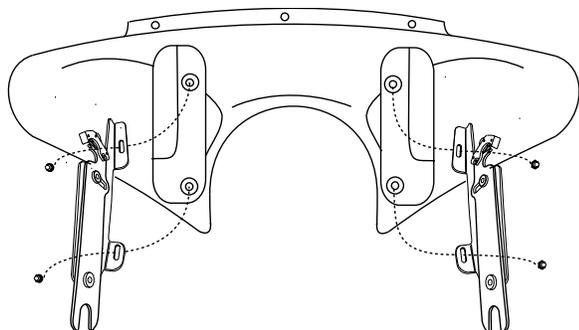

Figure 1
2. Attach the fairing mounting plates to the bolts on the fairing with the washers and acorn nuts provided. The Mounting tabs should be pointing in towards the headlight when installed correctly. (See Figure 1)